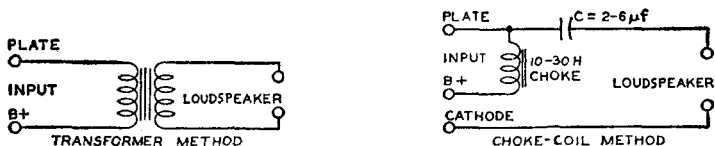

Fig. 76
Output-coupling devices are of two types, (1) choke-capacitor and (2) transformer. The choke-capacitor type includes an iron-core choke with an inductance of not less than 10 henrys which is placed in series with the plate and B-supply. The choke offers a very low resistance to the dc plate current component of the signal voltage but opposes the flow of the fluctuating component. A bypass capacitor of 2 to 6  $\mu\text{f}$  supplies a path to the speaker winding for the signal voltage. The transformer type is constructed with two separate windings, a primary and a secondary wound on an iron core. This construction permits designing each winding to meet the requirements of its position in the circuit. Typical arrangements of each type of coupling device are shown in Fig. 76. Examples of transformers for push-pull stages are shown in several of the circuits given in the CIRCUIT SECTION.